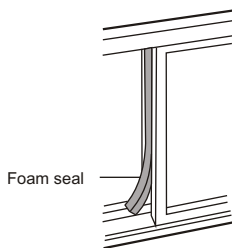

Fig.15
5. Cut the foam seal to an appropriate length and seal the open gap between the top window sash and outer window sash. Shown as in Fig.15.